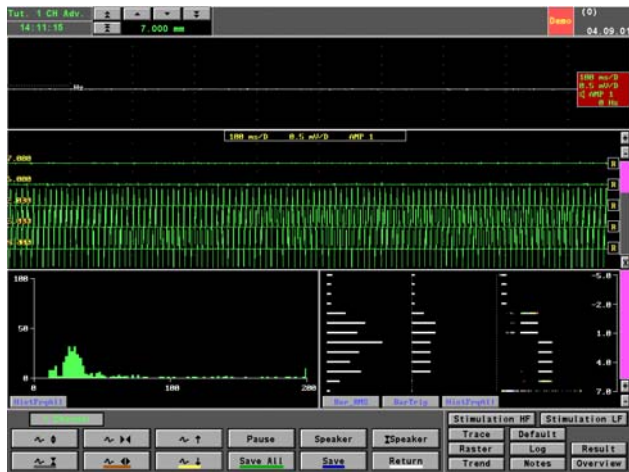

Figure 90 The Electrode Has Passed the Target by 7.000mm
- Alter the distance to the target from 6.000 to 7.000mm, see Figure 90 below: